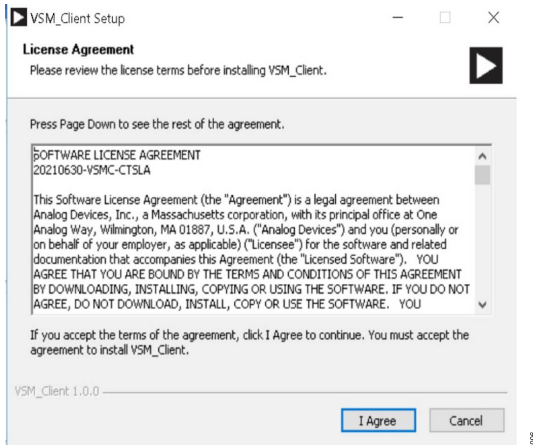

Figure 6. License Agreement
2. Read the software license agreement and click **I Agree** (see Figure 6).